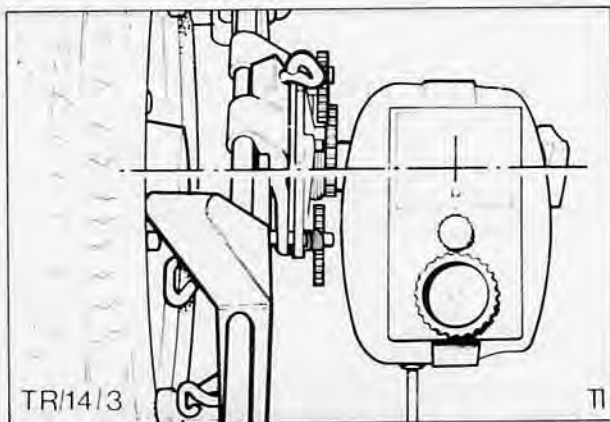

Fig. 3. When fitting equipment ensure projector spindle is in line with wheel centre
3. Secure projectors to front wheels. Projector pivot must be aligned to centre of wheel, Fig. 3.